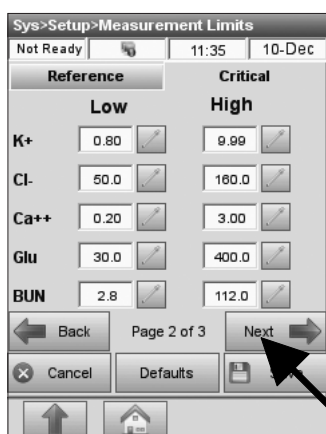
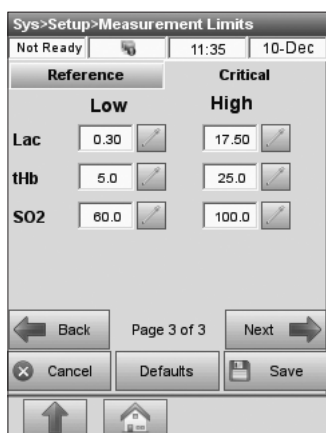

Fig. 3-28 Critical Limits 2
Fig. 3-29 Critical Limits 3
8. Press to access pages 2 and 3 with the remaining parameters (Fig. 3-28 and Fig. 3-29).